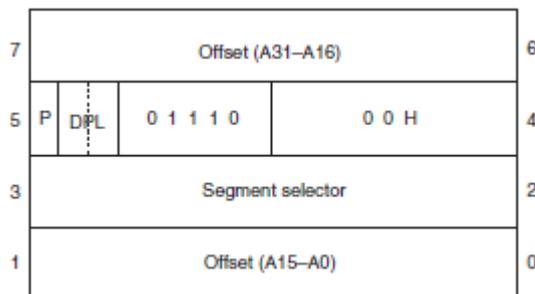

Figure 12-3: Protected Mode Interrupt descriptor
- IDT is 256*8(2K) bytes long, with each descriptor containing 8 bytes. (Figure 12-3)